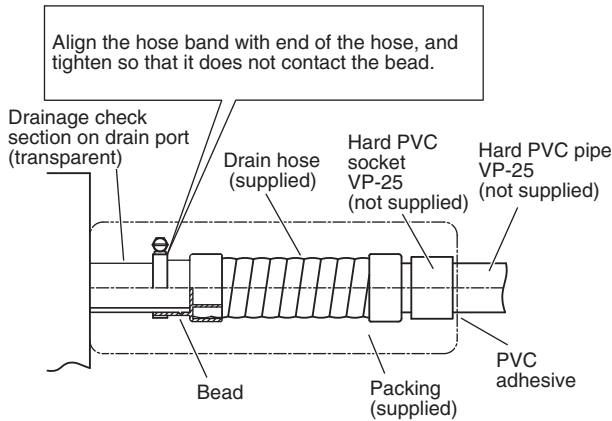

Fig. 3-42
The transparent drain part on the unit allows you to check drainage. (Fig. 3-42)
- Tighten the hose clamps so their locking nuts face upward. (Fig. 3-42)